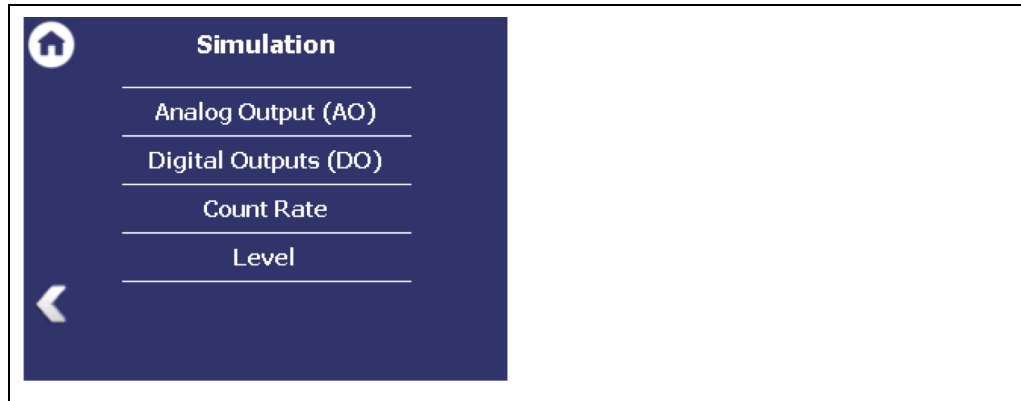

Fig. 97 Menu "Simulation"
1. Activate the check box (Fig. 97, item 1).
1. Click on the input field (Fig. 97, item 2) to enter a switch point.
1. Activate the check box (Fig. 97, item 3).
2. Click on the input field (Fig. 97, item 4) to enter a switch point.